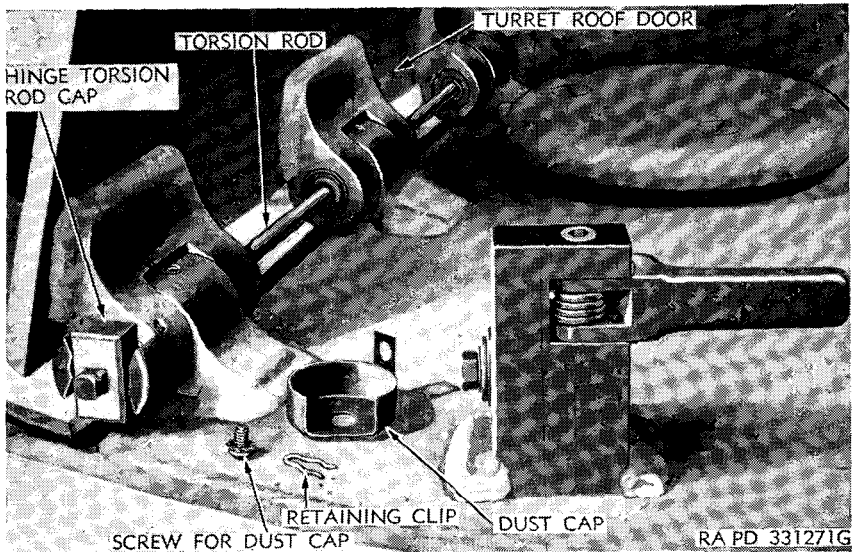
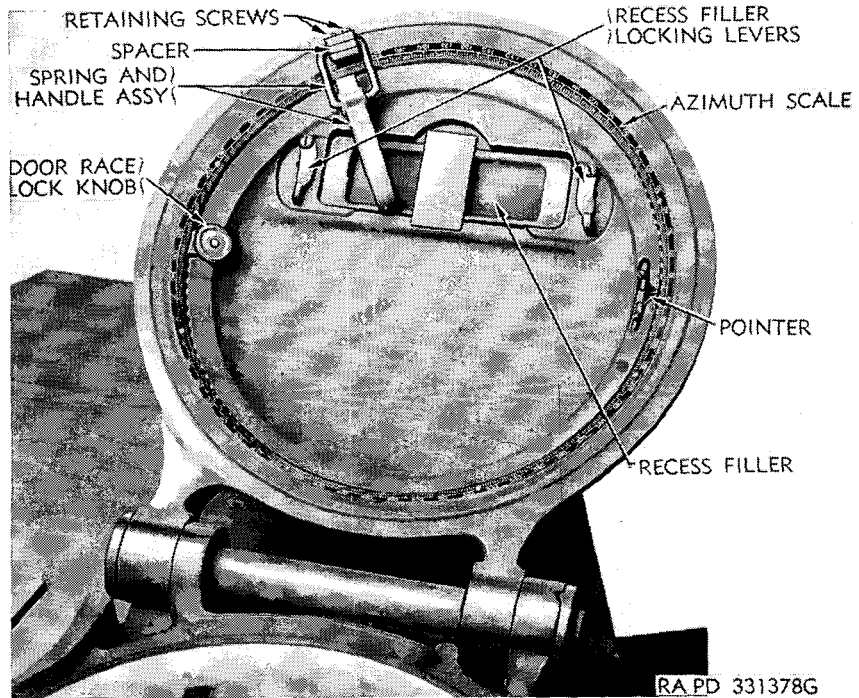

Figure 159. Turret door hinge.
Figure 160. Cupola door and latch.
- (1) Remove hairpin locks from each end of turret door hinge torsion rod. Remove screw holding dust cap to outer door hinge and remove cap (fig. 159). Raise door to vertical position to relieve tension from torsion rod and slide torsion rod hinge cap off end of rod. Pull torsion rod out of anchor on turret roof and out of hinges. Remove door.
- (2) To install, place door in vertical position over hinges on turret roof. Slide torsion rod through hinges and into anchor welded to turret roof. Place hinge cap over outer end of torsion rod so that cap fits into cutout hinge. Lower door to closed position, and install dust cap and screw. Install retaining clips on each end of torsion rod.
b. CUPOLA DOOR (fig. 160).
- (1) Open cupola door to the vertical position and hold in this position. Remove eight screws holding cap assemblies to outer ends of hinge. Remove caps. Torsion springs are now in the released position. Pull all six springs out of tube. While supporting door, push tube out of hinge bushings. Lift out door.
- (2) To install door, place door in vertical position next to hinges on cupola. While holding door vertical, install tube through bushings in hinges. Next, place six torsion springs in tube. Position cap assemblies over ends of hinges, making sure that torsion springs fit into cutouts in caps. Install eight screws holding caps to hinges. Close door.
- (*a*) Remove two screws which fasten cupola door latch spring and handle to bottom side of cupola door. Slide out spacer and remove spring and handle from door (fig. 160).
- (1) To remove, refer to paragraph 236b.
- (2) To install the periscope in the door, remove the periscope recess filler by releasing the two latches at the ends of the plug and pulling down on filler. Insert the periscope holder into the opening and lock in position with the two latch levers. Insert the periscope in the holder and lock in position by sliding back the latch and tightening the knurled knob. The cupola door race plate and periscope can be rotated 360° by loosening the knurled lock knob at the base of the plate next to the azimuth scale and turning the plate (fig. 160).